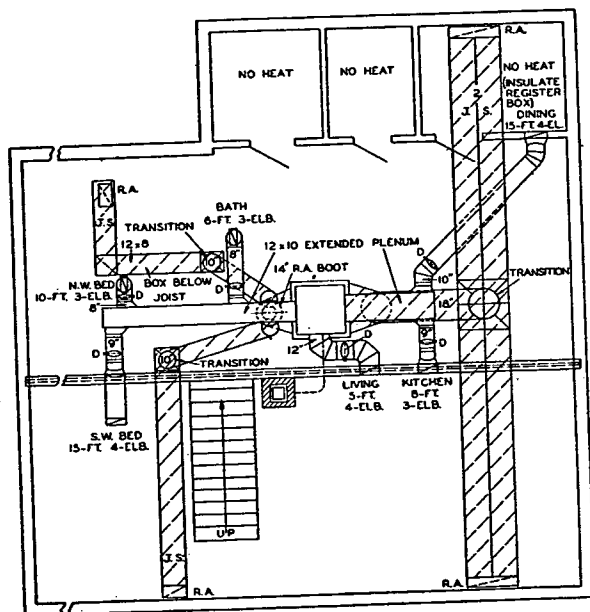

FIG. 7. TYPICAL BASEMENT LINE DRAWING FOR EXTENDED PLENUM
The extended plenum system of gravity warm air heating employs horizontal ducts in the basement leading from an enlargement or extension of the customary plenum to the risers which distribute the conditioned air to the various rooms. A typical basement plan for a system using an extended plenum is shown in Fig. 7.
1. Make a layout of the furnace, extended plenum, branches and registers, similar to Fig. 7.